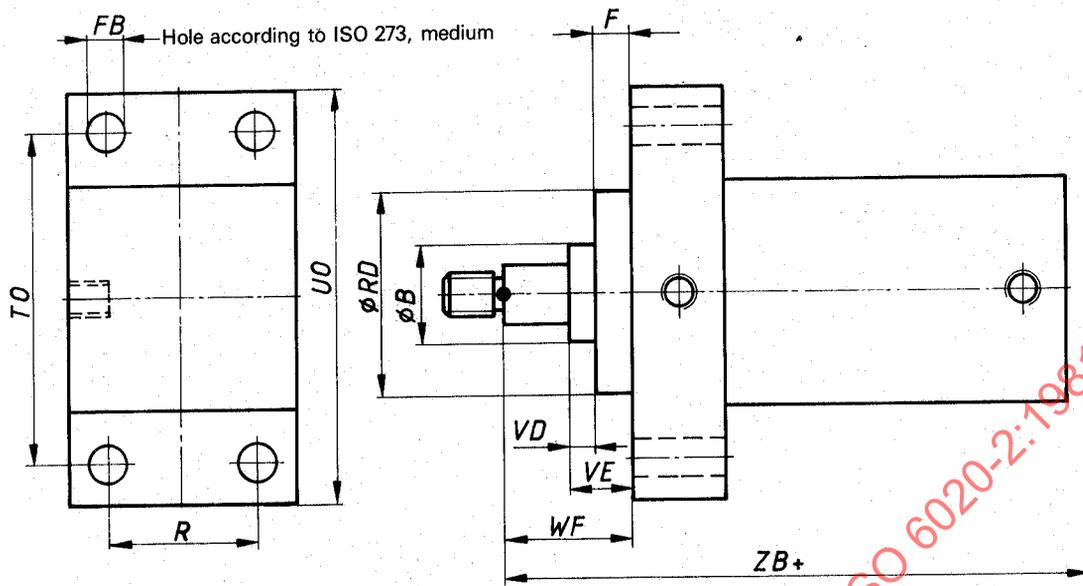

Figure 2 — ME5 — Head rectangular mounting
- ME5 — Head rectangular mounting (see figure 2 and table 2)